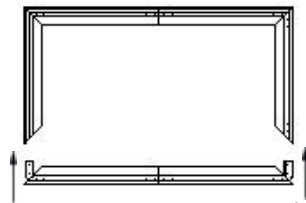

Fig 6
6. Slide the lower horizontal frame section (A) onto the vertical frame parts (B) (Fig. 6).